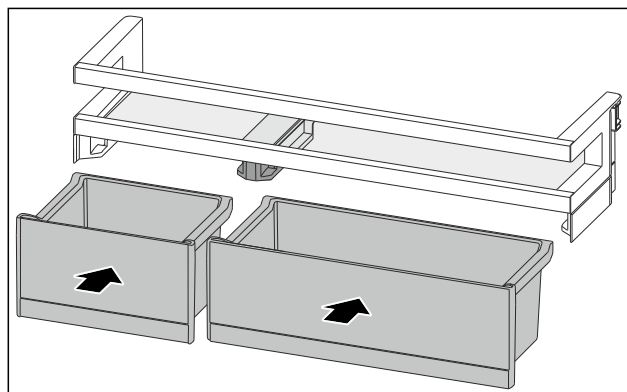

Fig. 197
- Insert the VarioBoxes in reverse order. (see Fig. 197)